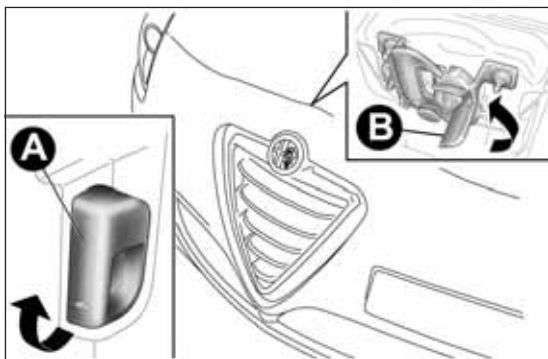

fig. 78
- pull lever A fig. 78 in the direction indicated by the arrow;